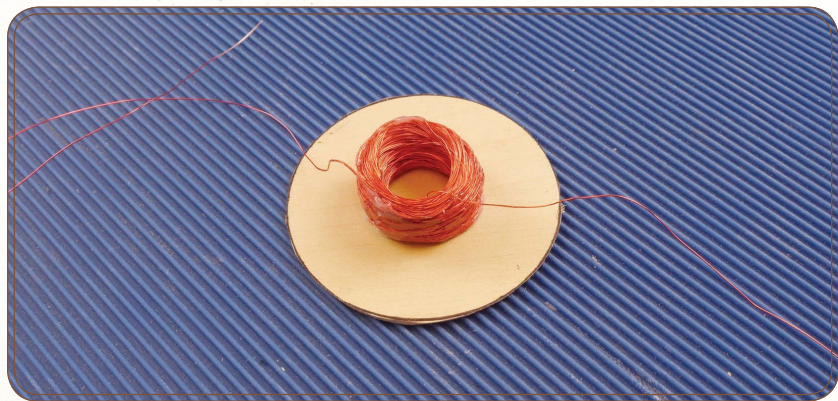

Figure 8.4: The voice coil attached to the diaphragm
5. Now glue this voice coil to the center of the diaphragm as shown in Figure 8.4. Let the glue harden.